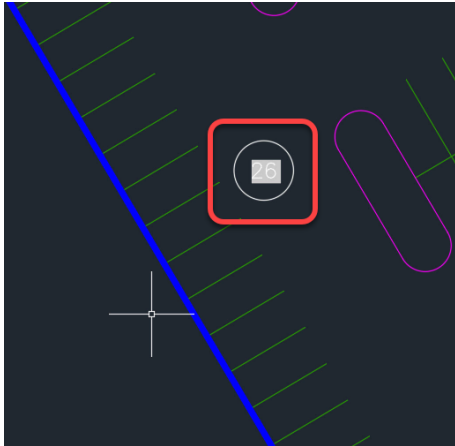

Figure 43: Parking Count dynamically established from the Length Field property.
- Click OK until you return to Model Space. The Field now reports the number of parking stalls as a function of the overall length of the parking run (see Figure 43).